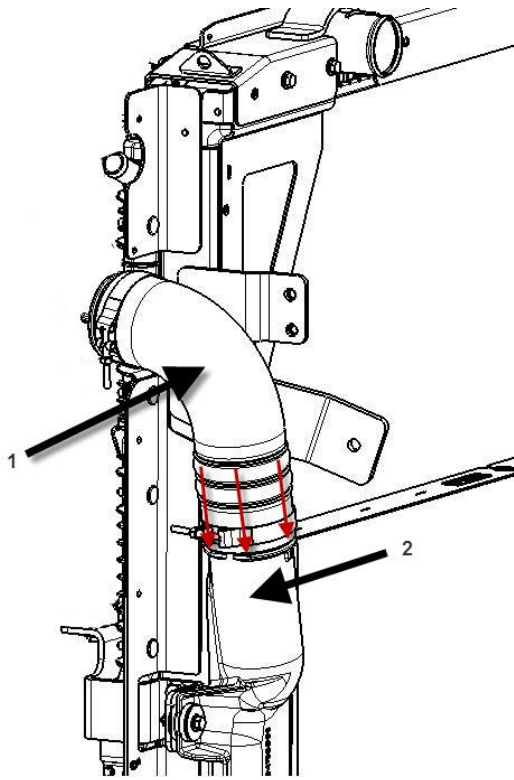

Figure 2 Sliding Hose Assembly onto the Hot CAC
2. Slide the hose assembly (2608804C2) on to the hot CAC (engine side) (See Figure 2, page 4).